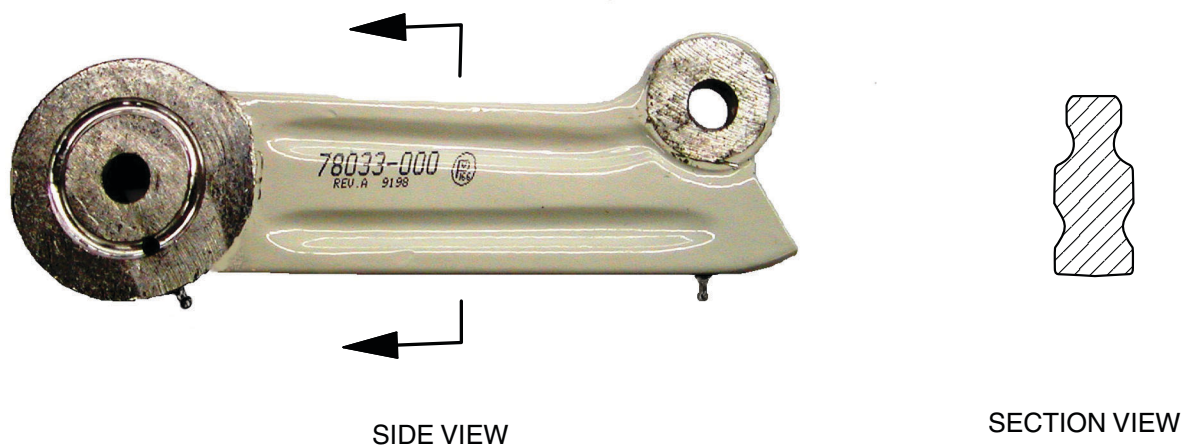

Figure 2
- Figure 2 shows the new style torque link, Piper part number 78033-000. The midsection of this new style torque link is rectangular in cross section, with 4 longitudinal grooves (2 per side), as shown in the section view of Figure 2. The new style 78033-000 torque link is exempt from the recurring inspection requirement of Service Letter 600 and this Service Bulletin. Proceed to **Part III** if all four (4) torque links are the new style, Piper part number 78033-000.